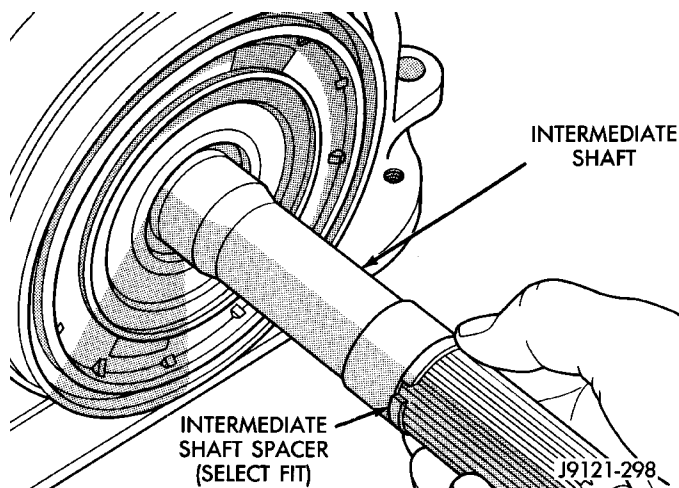

Fig. 196 Intermediate Shaft Spacer Location
(2) Remove intermediate shaft spacer (Fig. 196). Retain spacer. It is a select fit part and may possibly be reused.